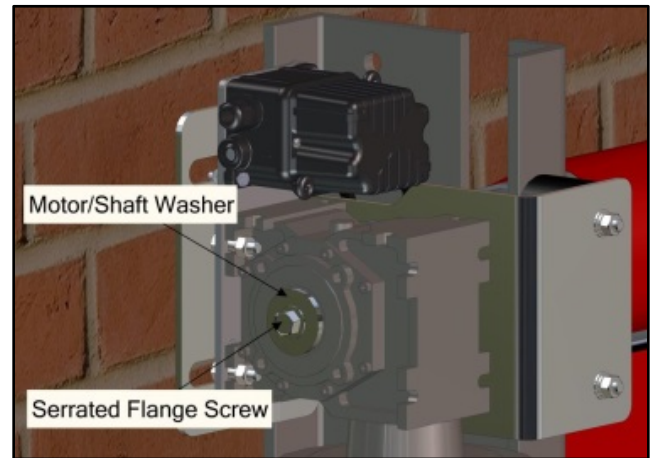

Figure 56
14. Install serrated flange screw and flat washer onto shaft end. (See Figure 56)